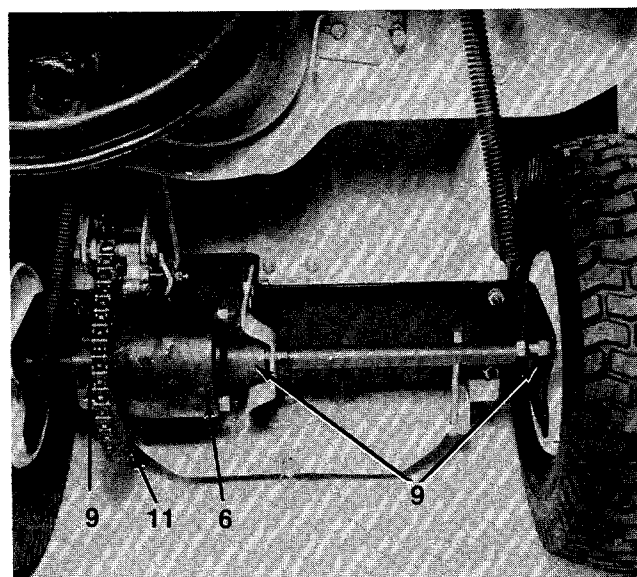

FIGURE 17.
6. **Differential.** Lubricated at the factory with 2 ounces of high temperature grease (450° F.). The grease should only be checked or replaced if the differential is disassembled for repair. See figure 17.
9. **Rear Axle Bearings (3).** Requires no lubrication. See figure 17.
11. **Chain.** Remove and clean with kerosene. Lubricate with an oil soaked rag. See figure 17.